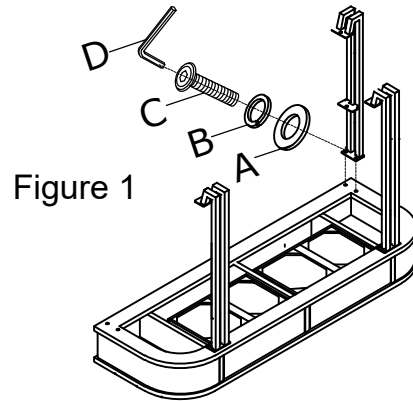

Figure 1
2. Attach the three legs to the top panel using Flat Washer (A), Lock Washer (B) and Bolt (C), tighten with the Allen Wrench (D). As shown in Figure 1. (Do not over tighten bolts during assembly.)